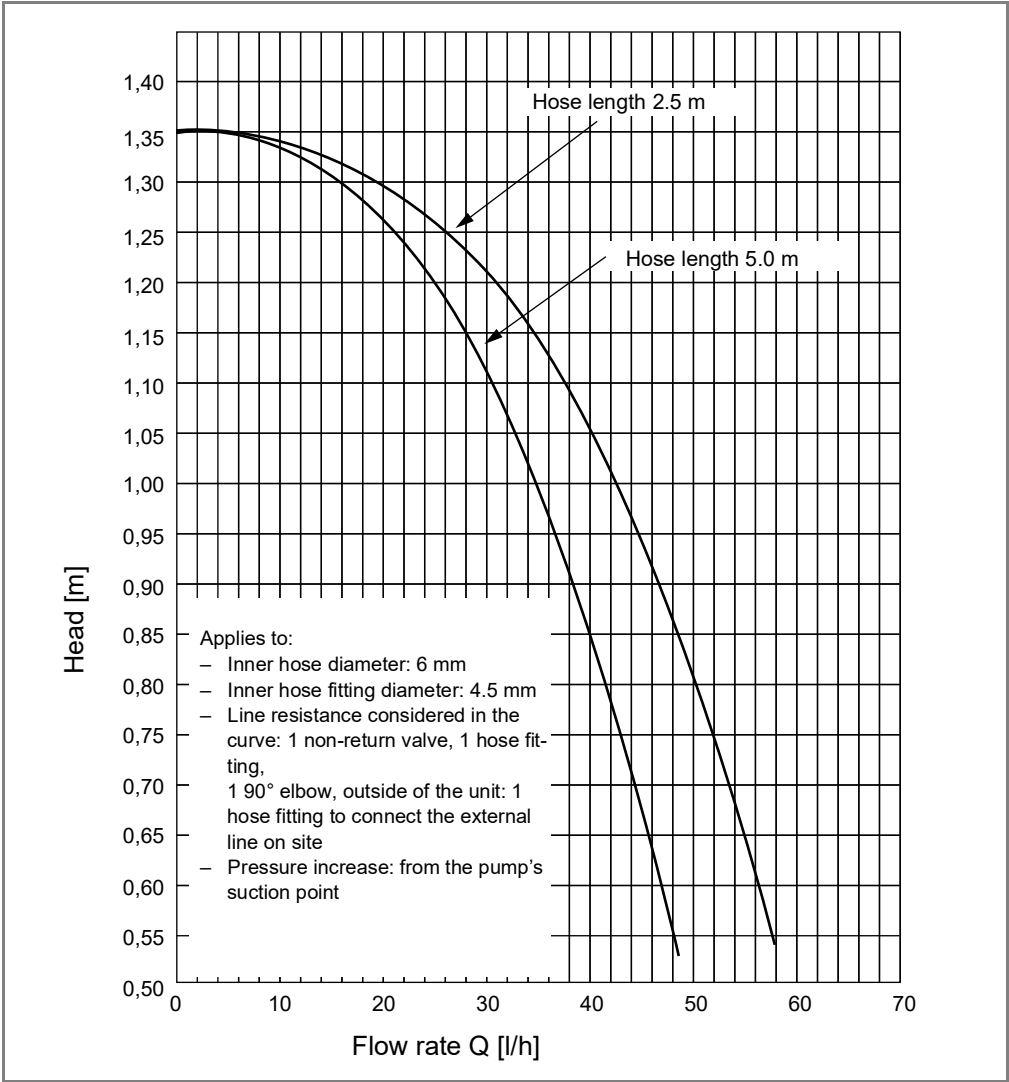

Fig. 2-5: Condensate pump cover
- The maximum operating pressure of the pump is 0.1 MPa (1 bar); the maximum water flow rate is 10 l/h. fig. 2-5 shows the pump's capacity in l/h in relation to the delivery head.